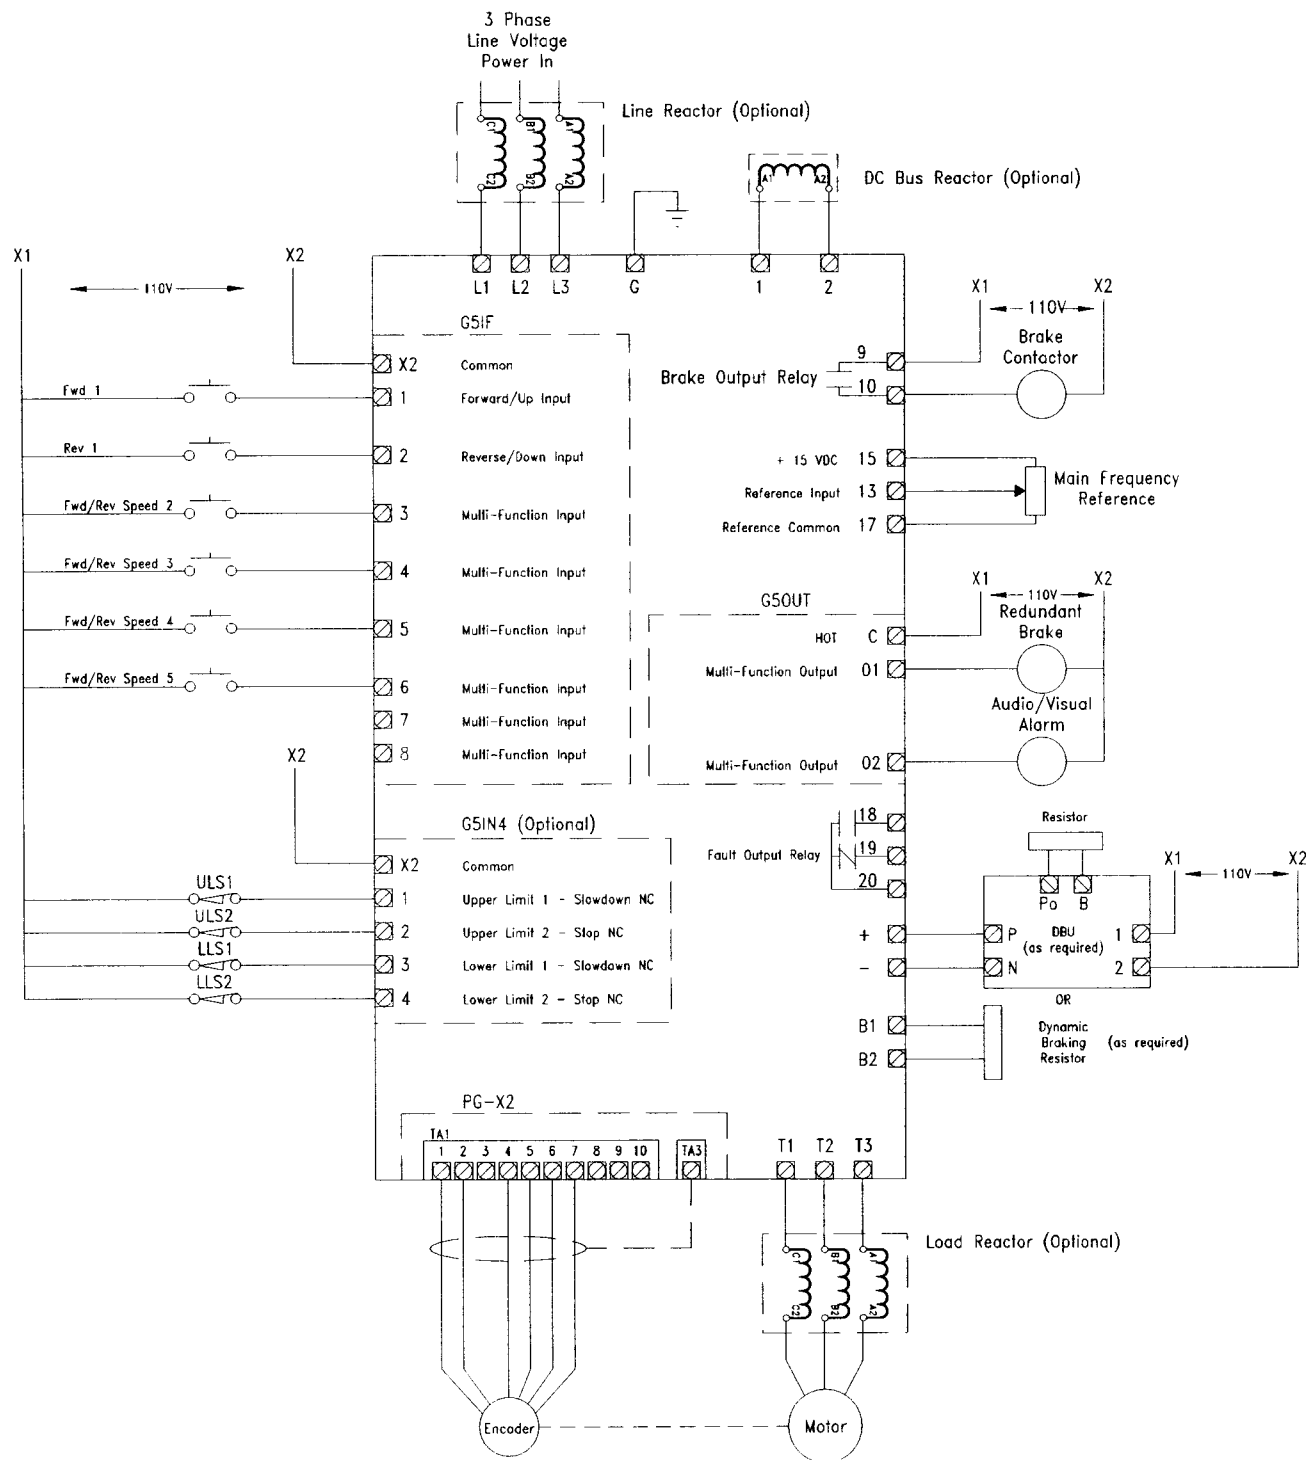
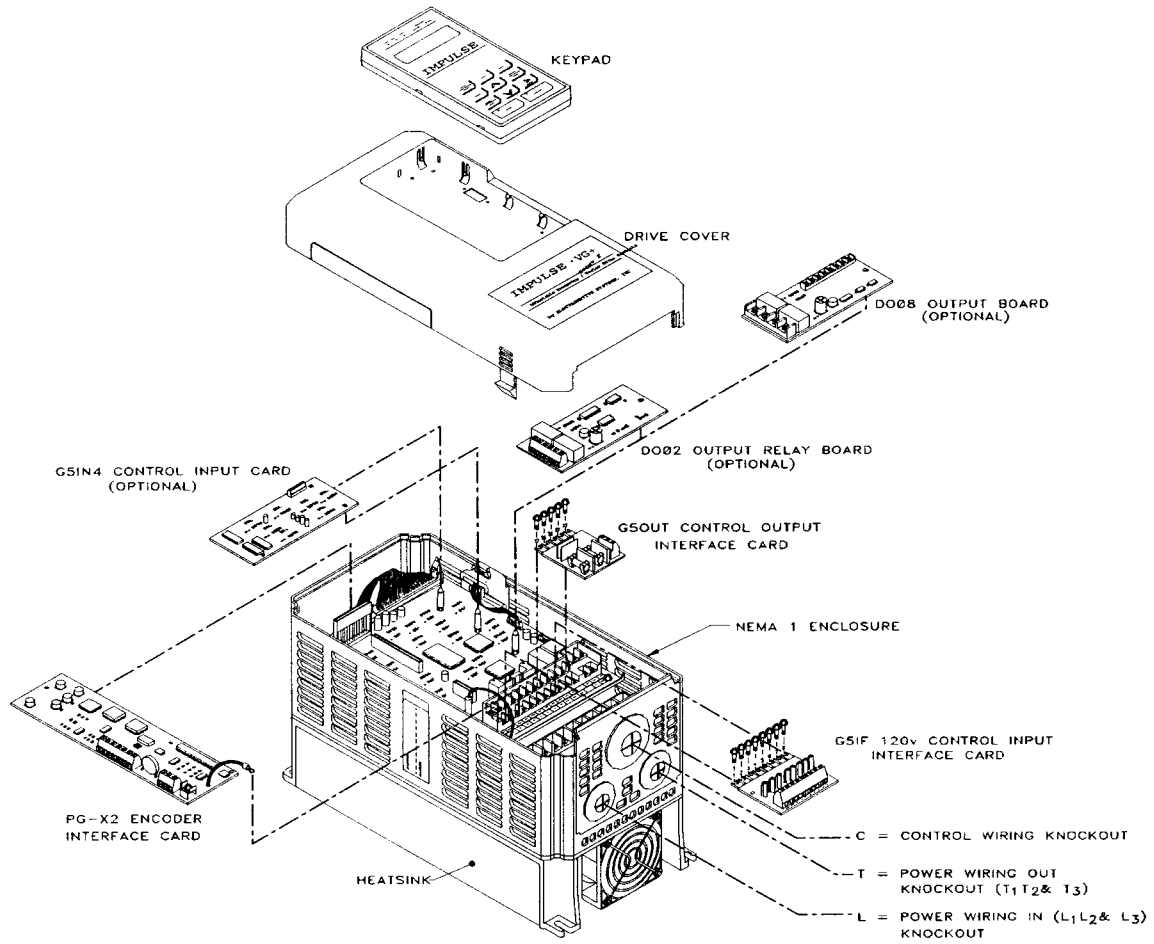

Figure 1.1: IMPULSE•VG+ Series 2 Wiring Diagram
Figure 1.2: IMPULSE•VG+ Series 2 Components Diagram
1. Orient yourself by looking at the drawings Figure 1.1: IMPULSE•VG+ Series 2 Wiring Diagram and Figure 1.2: IMPULSE•VG+ Series 2 Components Diagrams.